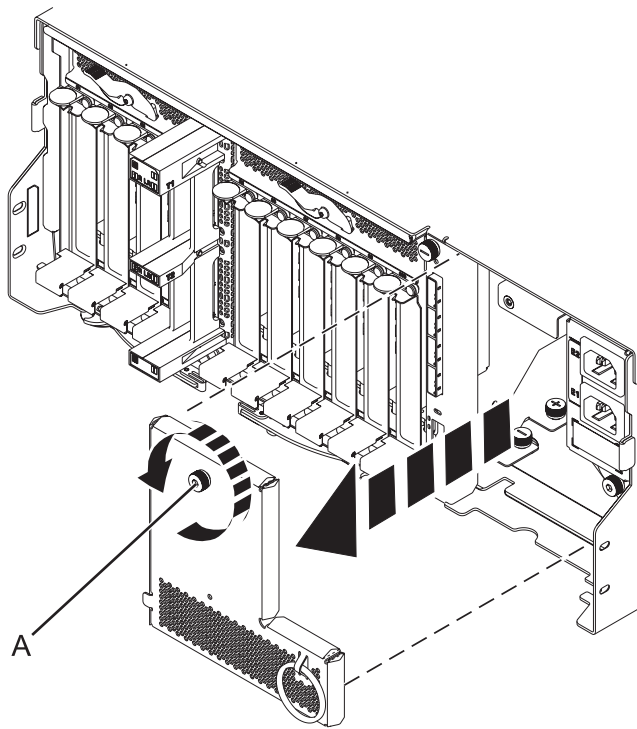

Figure 67. Removing the power cord plate
10. Remove the power cord plate by turning the thumbscrew (A) and pulling the plate away from the system, as shown in Figure 67.